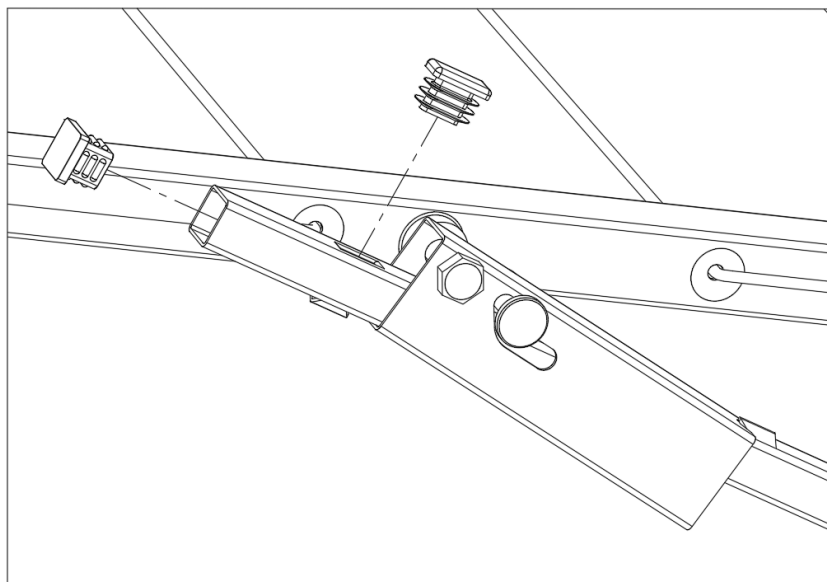

Fig 4. Plastic plugs to front and top of stay.
12. Install plastic plugs to back of the arms and to the top and front end of stays. (Figs 4 and 5)
13. Install plastic plugs to back of the arms and to the top and front end of stays. (Figs 4 and 5)